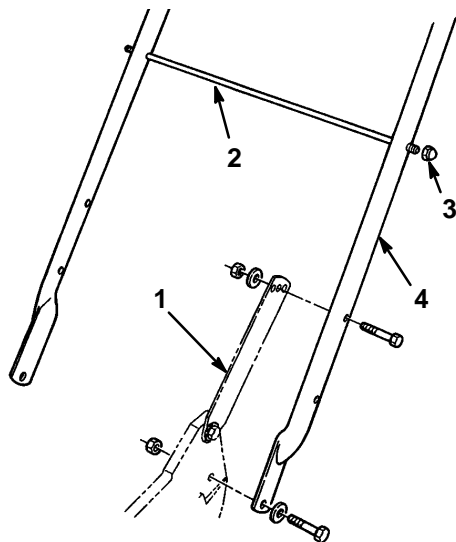

Figure 2
1. Mount handle to outside of mower housing, using bottom hole, with (2) 5/16-18 x 1-1/4" lg. capscrews, washers, and thin nylon insert locknuts (Fig. 2).
2. Secure handle latches to handle with (2) 5/16-18 x 1-1/2" lg. capscrews, washers and nylon insert locknuts (Fig. 2).
3. Slide bag support rod thru **top** mounting holes in handle and secure each end with a cap locknut (Fig. 2).